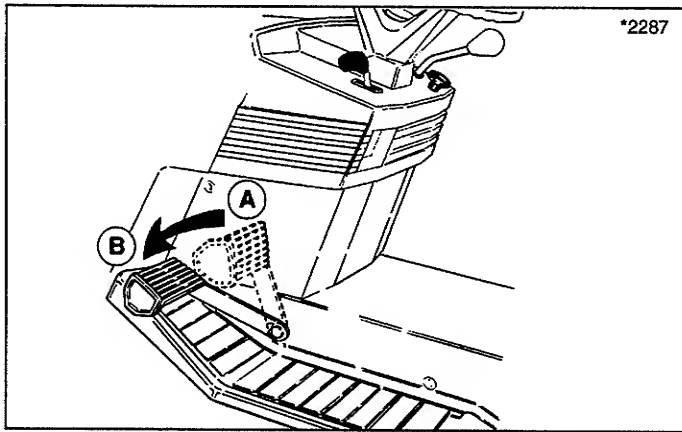

Figure 12. Clutch Pedal - Gear Models
1. See figure 12. Depressing the clutch pedal from position A to B activates neutral start circuit, disengages the transmission drive belt and allows the gear lever to be shifted. Clutch pedal must be used with the brake pedal to stop the tractor.